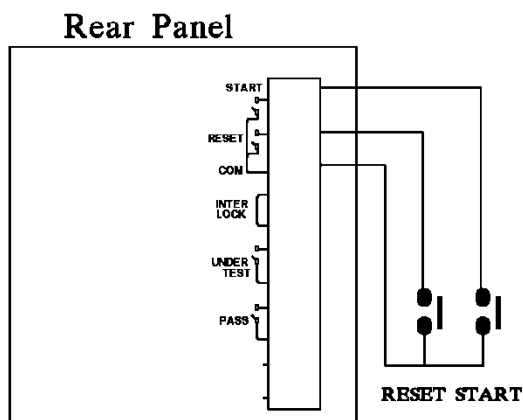
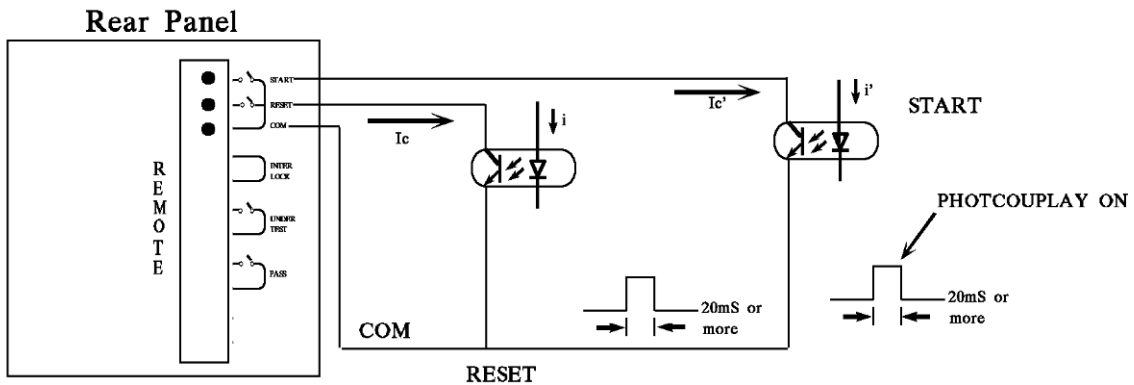

Figure 4-1
Figure 4-3
1. For single control of START and STOP signals follow *Figure 4-1* listed below to connect them to the REMOTE position on front panel of the main system.
- The logic components of transistor, FET and couplers can be connected and used as control circuit. The connected signals and circuit are shown as *Figure 4-3* below. To use this circuit to control the system, it must contain the following:
- (1)The current of LOW signal is 2mA or less.
- (2)The active time for input signal is more than 20mS.
- Either the relay switch control in *Figure 4-1* or the coupler control in *Figure 4-3* uses the contact of components for control action. It can prevent the error operation from interference effectively. Though the system has a lot of precautions, it is necessary to be careful the interference caused by the measurement system settings.